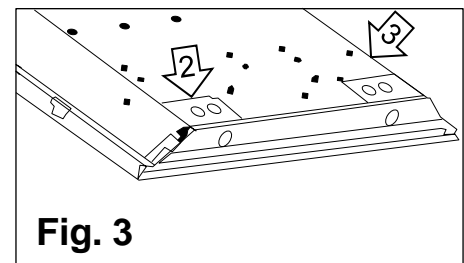

Fig. 3
7. Remove one **knockout** in the **access plate** (#2) (**Fig. 3**).
9. Remove the **access plate** located on back of **fixture** (#3) and locate the purple and grey **dimming wires** (**Fig. 3**).
10. Remove one **knockout** in the **access plate** (#2) (**Fig. 3**).